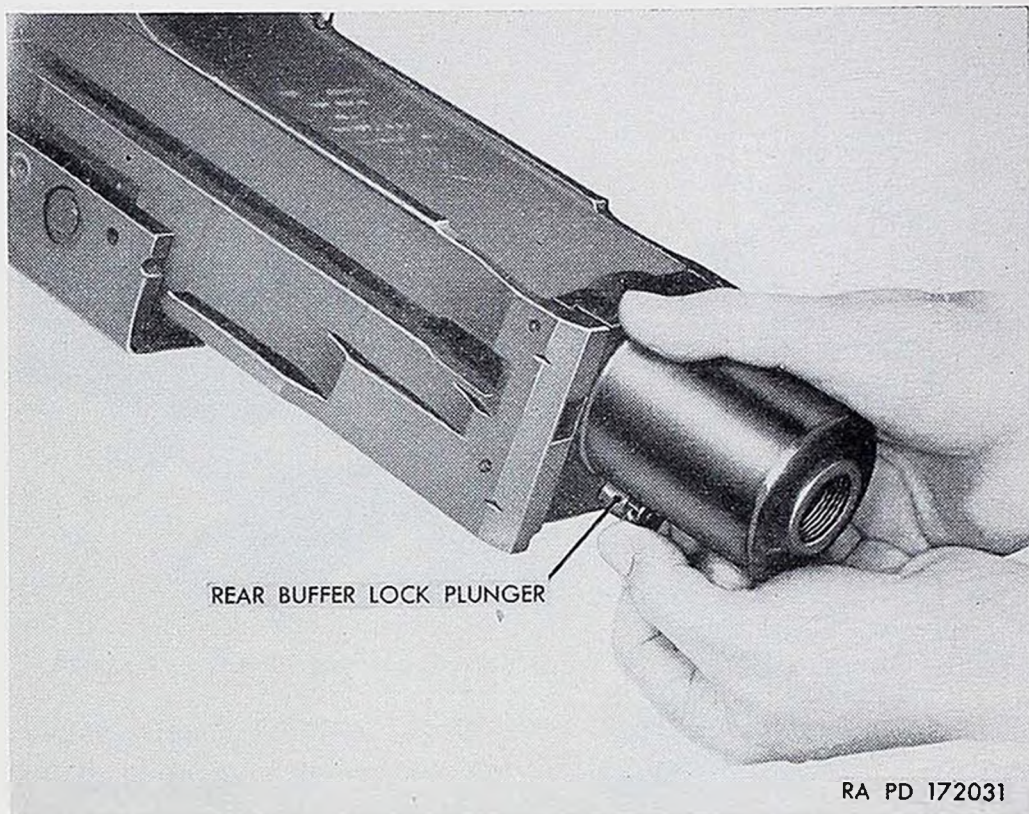

Figure 81. Retracting the rear buffer lock plunger.
c. Retract rear buffer lock plunger (fig. 81) and push rear buffer down and out of the dovetail slots of the receiver.
a. Engage rear buffer assembly in the dovetail slots in the receiver, draw back on rear buffer lock plunger (fig. 81), move rear buffer upward until plunger seats itself, and then release lock plunger.